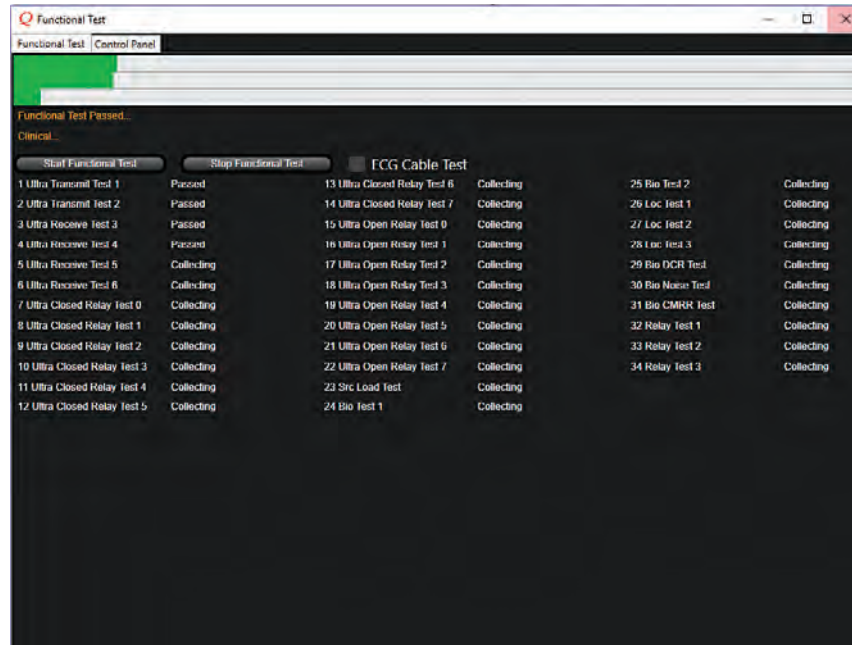

Figure 5-2. Functional test screen
1. Insert an Electrical Reference Sheath (AcQRef Introducer Sheath) or Catheter into the right or left femoral vein per standard laboratory procedure. Refer to Chapter 5, *Figure 5-2* for recommended sheath/catheter/electrode requirements.